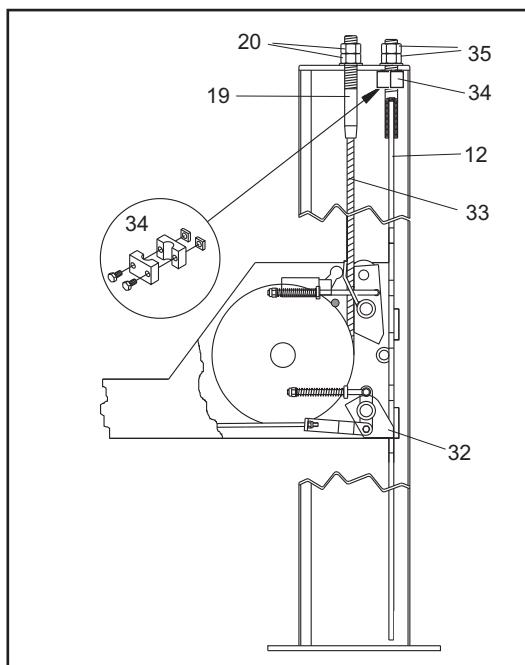

Fig.51 Pre-adjustment of lift cables
Position the lift so that the four wedges (32) in fig.51 are firmly seated in the slots on the safety rods (12). Adjust the nuts (20) on the terminal blocks (19) of the lift cables (33) to level the platforms (7 and 8) so that the entire surface of the movable section of the lift is perfectly level.